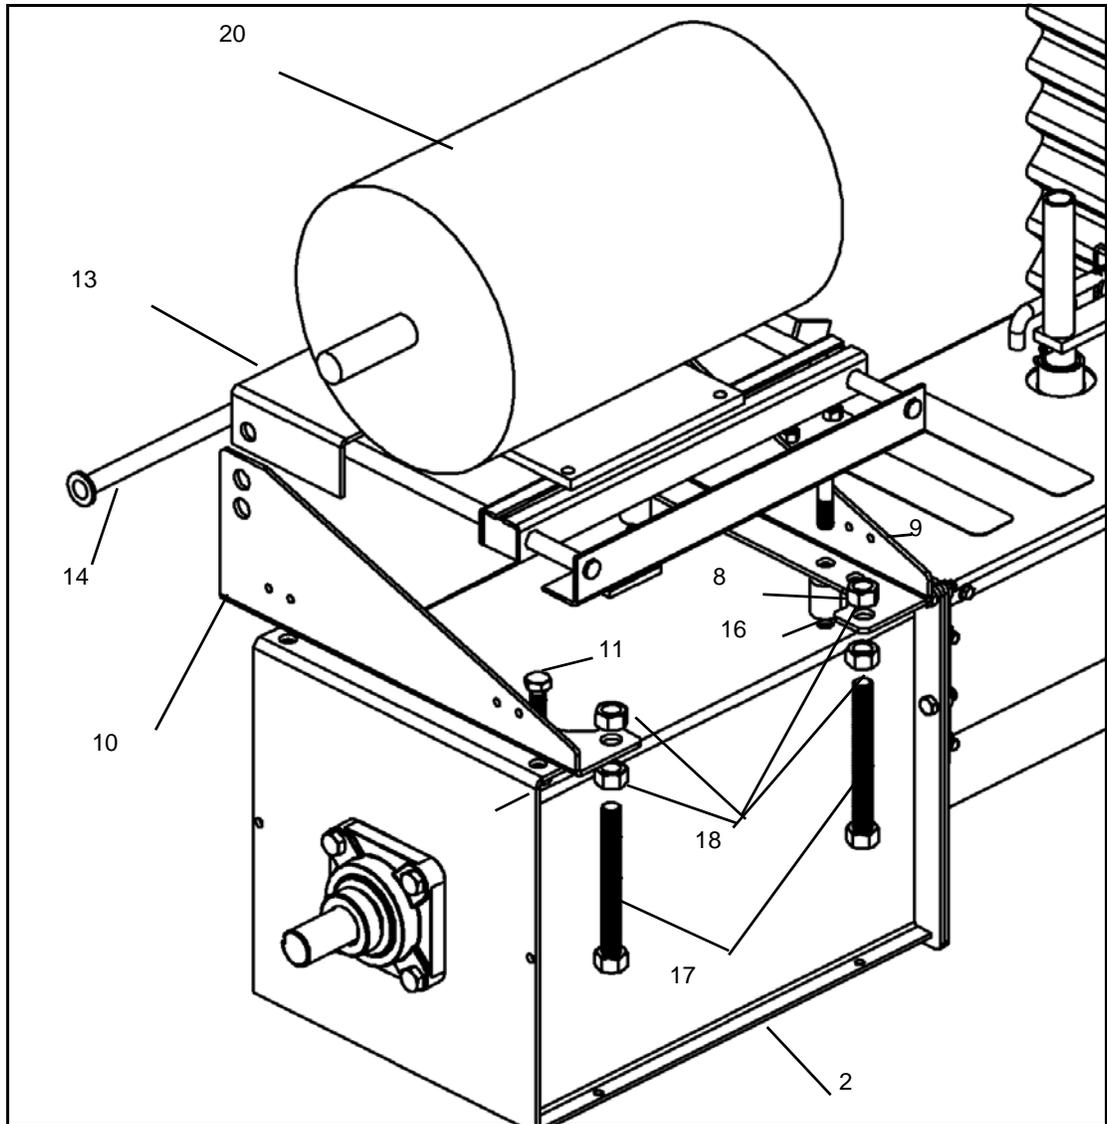

Figure 3.13
3. Mount power-head (2) on u-trough assembly (5) with 3/8" x 1" bolts (6) and 3/8" locknuts (7).
5. Place mount spacers (8) on power-head (2) (see Figure 3.13).
6. Place mount plate (9) on mount spacers (8) and attach loosely to powerhead (2) with 1/2" x 2-1/2" bolts (15) and 1/2" locknuts (16).
7. Place mount plate (10) on powerhead (2) and attach securely with 1/2" x 1-1/4" bolts (11) and 1/2" locknuts (12).
8. Place motor mount (13) between the two mount plates (9,10), and insert hinge rod; see Figure 3.13. Secure with a 1/8" x 1-1/2" cotter pin (19).
9. Adjust mount plates (9,10) if necessary for the mount (13) to fit properly and tighten the 1/2" locknuts (12,16).
10. Thread a 5/8" nut (18) on each adjust bolt (17) and place 5/8" adjust bolts through available hole in front mount plates (9,10). Secure in place using two 5/8" hex nuts (18). Leave adjust bolt loose to allow for later adjustment.
Note: See Table 3.1 for electrical motor requirements and Figure 3.13 for the electric motor installation.